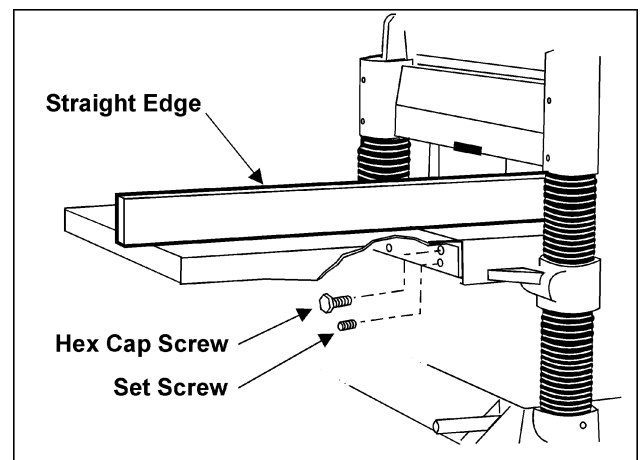

Fig. 9
1. Mount a cast iron table to the edge of the main table with three M8 x 25 hex cap screws (Fig. 9) using a 12mm wrench. Do not fully tighten yet.